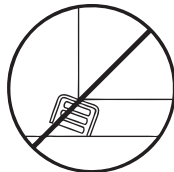

Figure 2
4. Ensure that the load is properly seated on each skate, Figures 2 and 4.